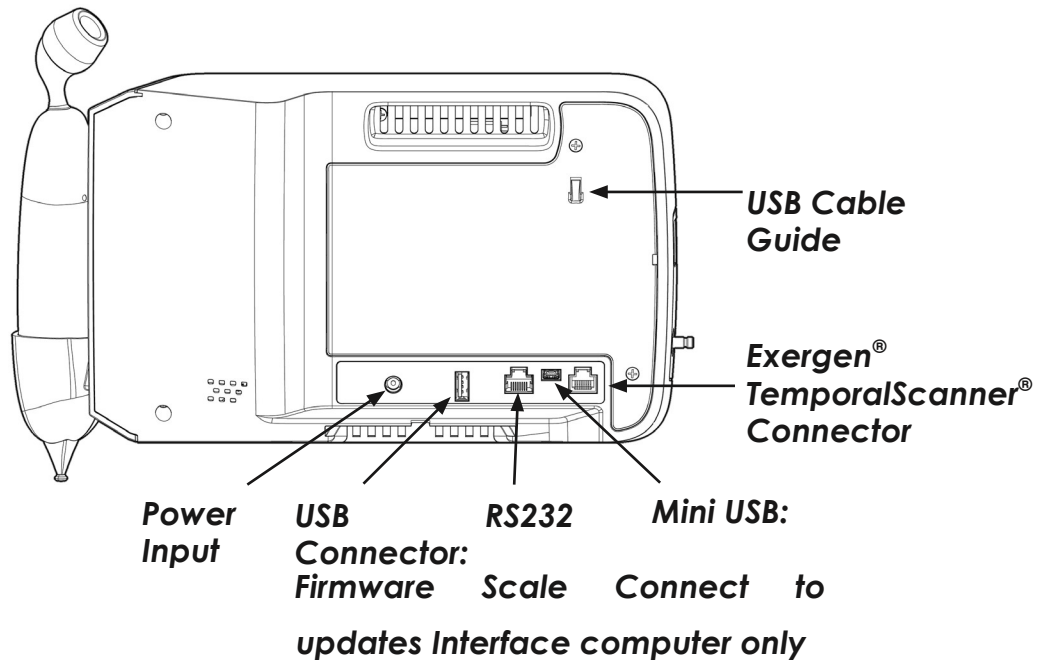

Figure 3 – Back View
2. Connect the Exergen TemporalScanner to its connector located on the back of the device (see **Figure 3**).
1. Attach the power cord to the device (see **Figure 3**). The power input is located on the back of the device. Plug the power cord into the AC wall outlet.
- Allow approximately four (4) hours to fully charge the battery.
1. If using the Midmark® Digital Vital Signs Device with a computer, connect the mini-USB connector of the USB cable to the mini-USB port on the back of the device and route the cable through the USB cable guide (see **Figure 3**) on the battery door of the Midmark® Digital Vital Signs Device. The other end of the USB cable will be connected to an available USB port on the computer.
1. If using a Fairbanks® TeleWeigh™ scale with the Midmark® Digital Vital Signs Device, connect the scale cable to the back of the device (see **Figure 3-Scale Interface**). The
2. If using a Midmark Exam Chair and Integrated Scale with the Midmark® Digital Vital Signs Device, connect the scale cable on the chair to the back of the device (see **Figure 3-Scale Interface**). The Table Scale icon will appear to the right of the Clear button on the Main Testing screen when the Midmark® Digital Vital Signs Device is configured to the Integrated Scale. See Section XIII, Appendix A - Configuring an Midmark® Digital Vital Signs Device with the Midmark Integrated Scale for complete instructions on configuring the Midmark® Digital Vital Signs Device with the Integrated Scale.
- Attach the power cord to the device (see **Figure 3**). The power input is located on the back of the device. Plug the power cord into an AC wall outlet.